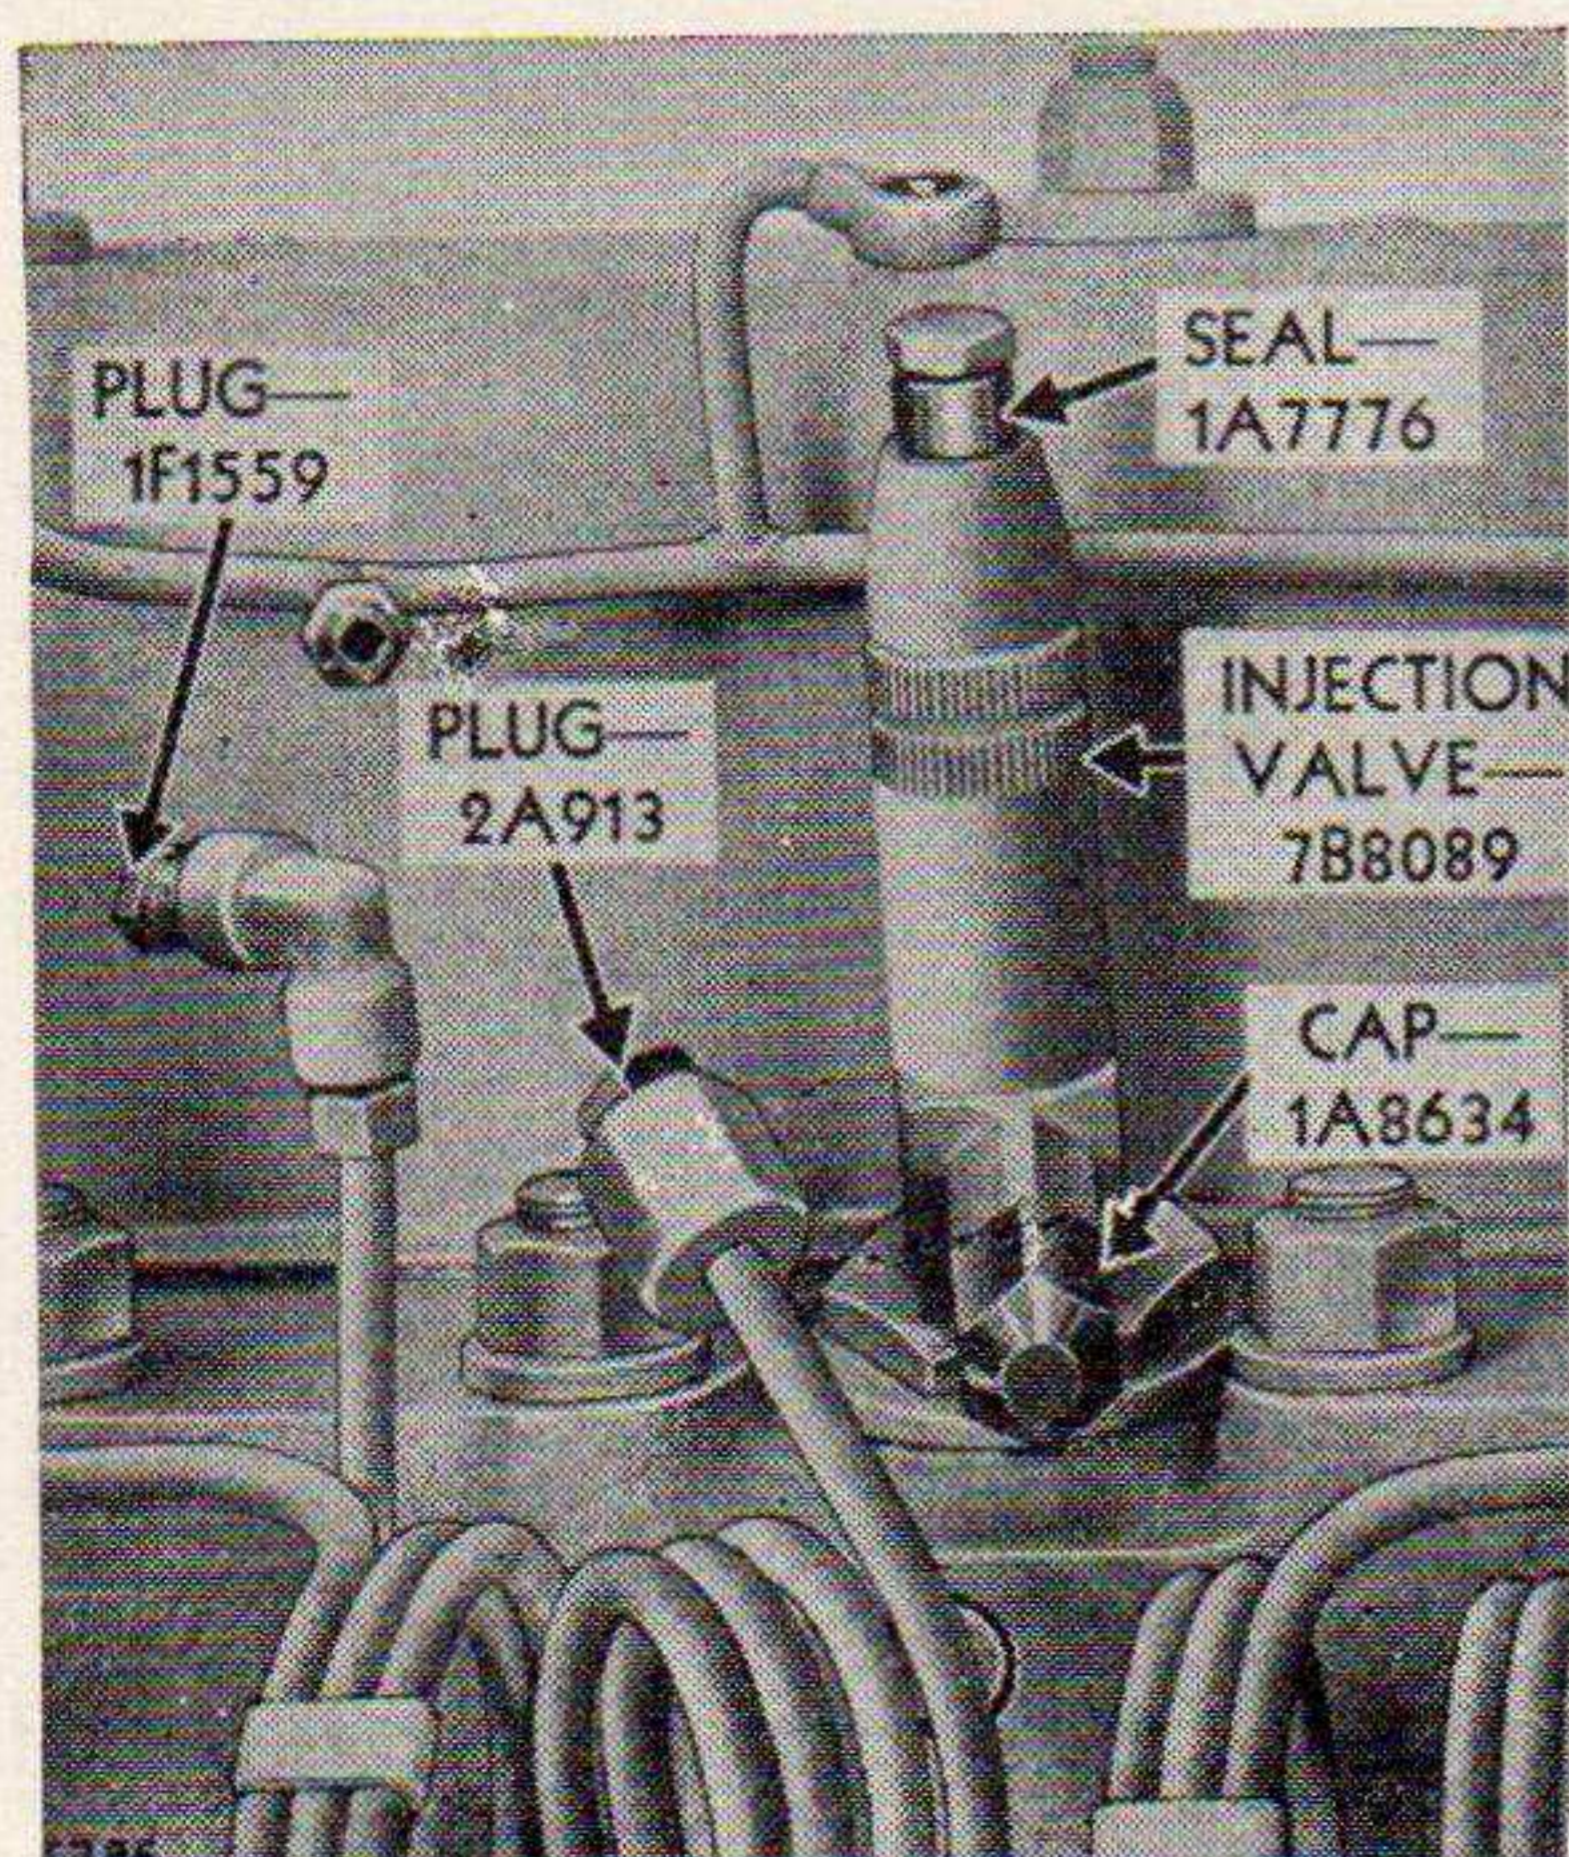

Figure 84. Preparing to remove injection valve.
(b) *Disconnect drain tube.* Disconnect the drain tube from the top of the injection valve and install a 1A7776 Seal in its place. (See fig. 84.)
(c) *Disconnect fuel inlet line.* Disconnect the fuel inlet line and cover the opening in the injection valve with a 1A8634 Cap. Cover the opening in the end of the fuel line by screwing in a 2A913 Plug. (See fig. 84.)
- (b) *On machines after 9K4825.* On motor graders built after serial number 9K4825, disconnect the drain tube and screw a 1F1559 Plug in its place in the fitting in the tube leading to the transfer pump. This is necessary to prevent an air lock in the fuel system while the inspection valves are being tested. (See fig. 84.)